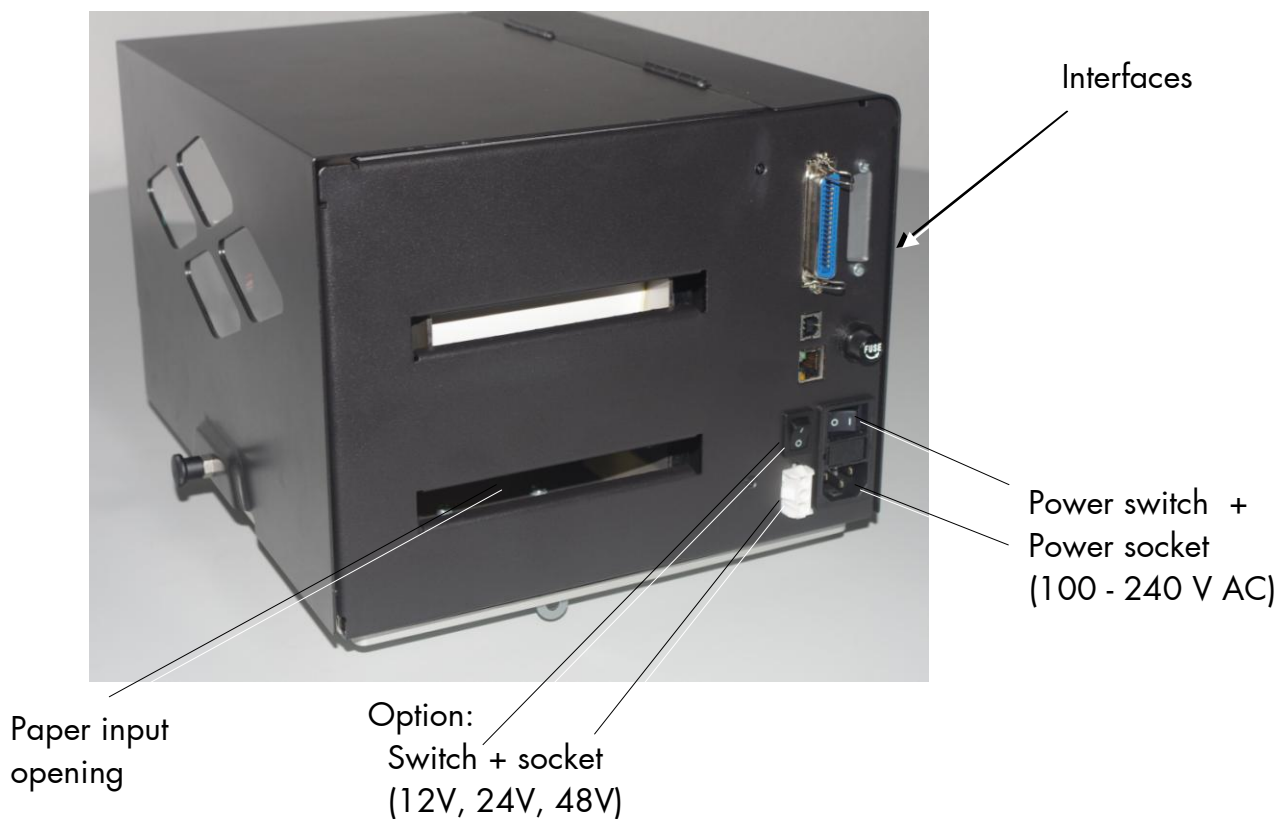

Fig. 5.1.a Rear view of the printer
1. Make sure that the printer is turned off. The power switches are located at the back of the printer (next to the paper input opening of the printer, see figure 5.1 a).
2b. Turn on the printer. The power switch is located at the back side of the printer (at the lower right corner of the printer, see fig. 5.1 a).
2e. Use the white socket at the back of the printer (see fig. 5.1.a), to connect the printer to the electric system of the forklift truck.